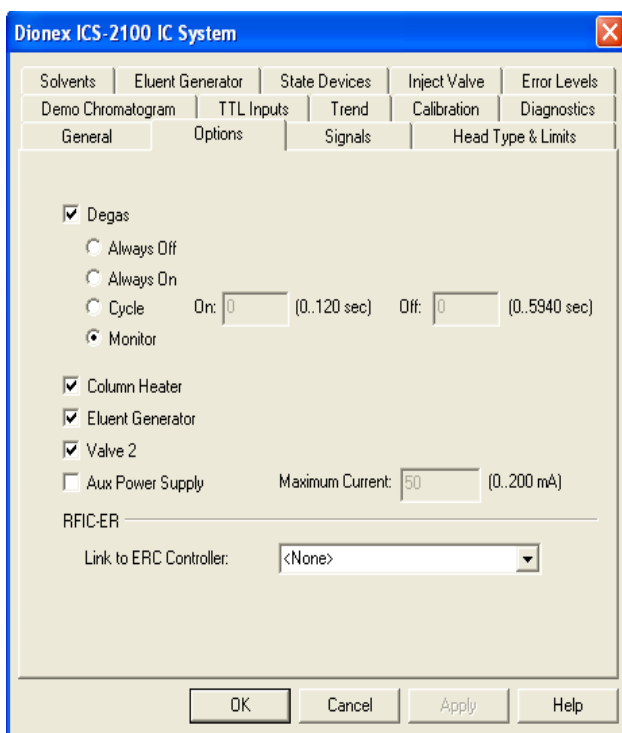

Figure 4-1. ICS-2100 Server Configuration Properties: Options
2. Select the **Options** tab (see Figure 4-1).